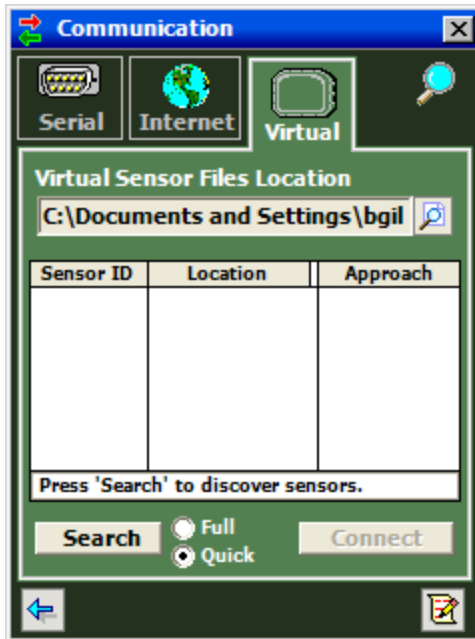

Figure 4.5 – Virtual Connection Screen
2. Select the **Virtual** tab (see Figure 4.5).